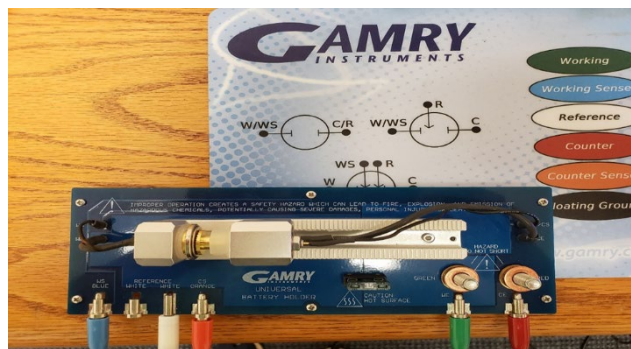

Figure 1- Connections to the Universal Battery Holder for a CCD experiment
3. Once the battery is securely placed in the holder you can connect the leads from the instrument to the holder. Matching the color leads to the color connector. The black ground lead can be left disconnected. See figure 1.